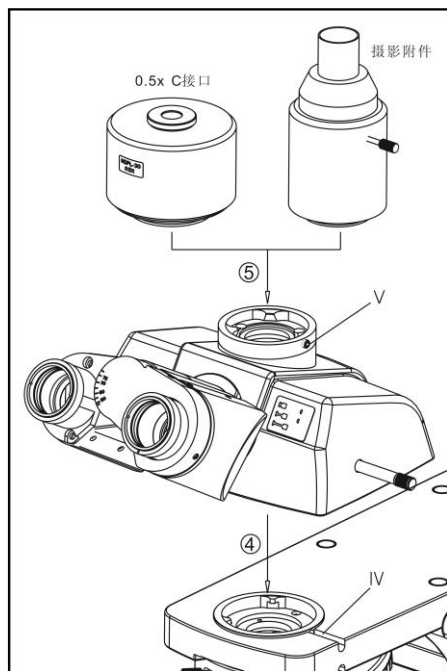

Fig 6
### 4-2-4 Install Camera Lens and Photo Acc /0.5X C-mount (fig 6)
Install camera lens into the microscope groove according to the path ④ shown in the figure 6, then use hex wrench tight up the bolt shown as IV and fix the camera lens.
Accord the path of ⑤ shown in figure 6 to insert the trinocular viewing unit into the microscope head. Then use the hex wrench screw the fixed bolt shown as V .